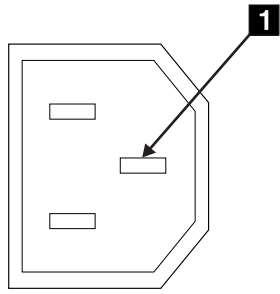

Figure 20. Ground Pin (2104 Model TU3)
10. Refer to Figure 20 on page 35.